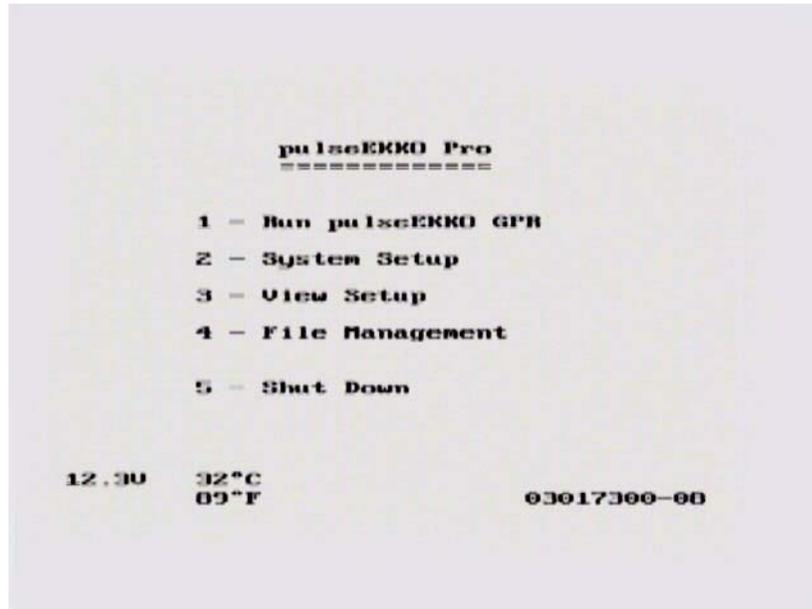
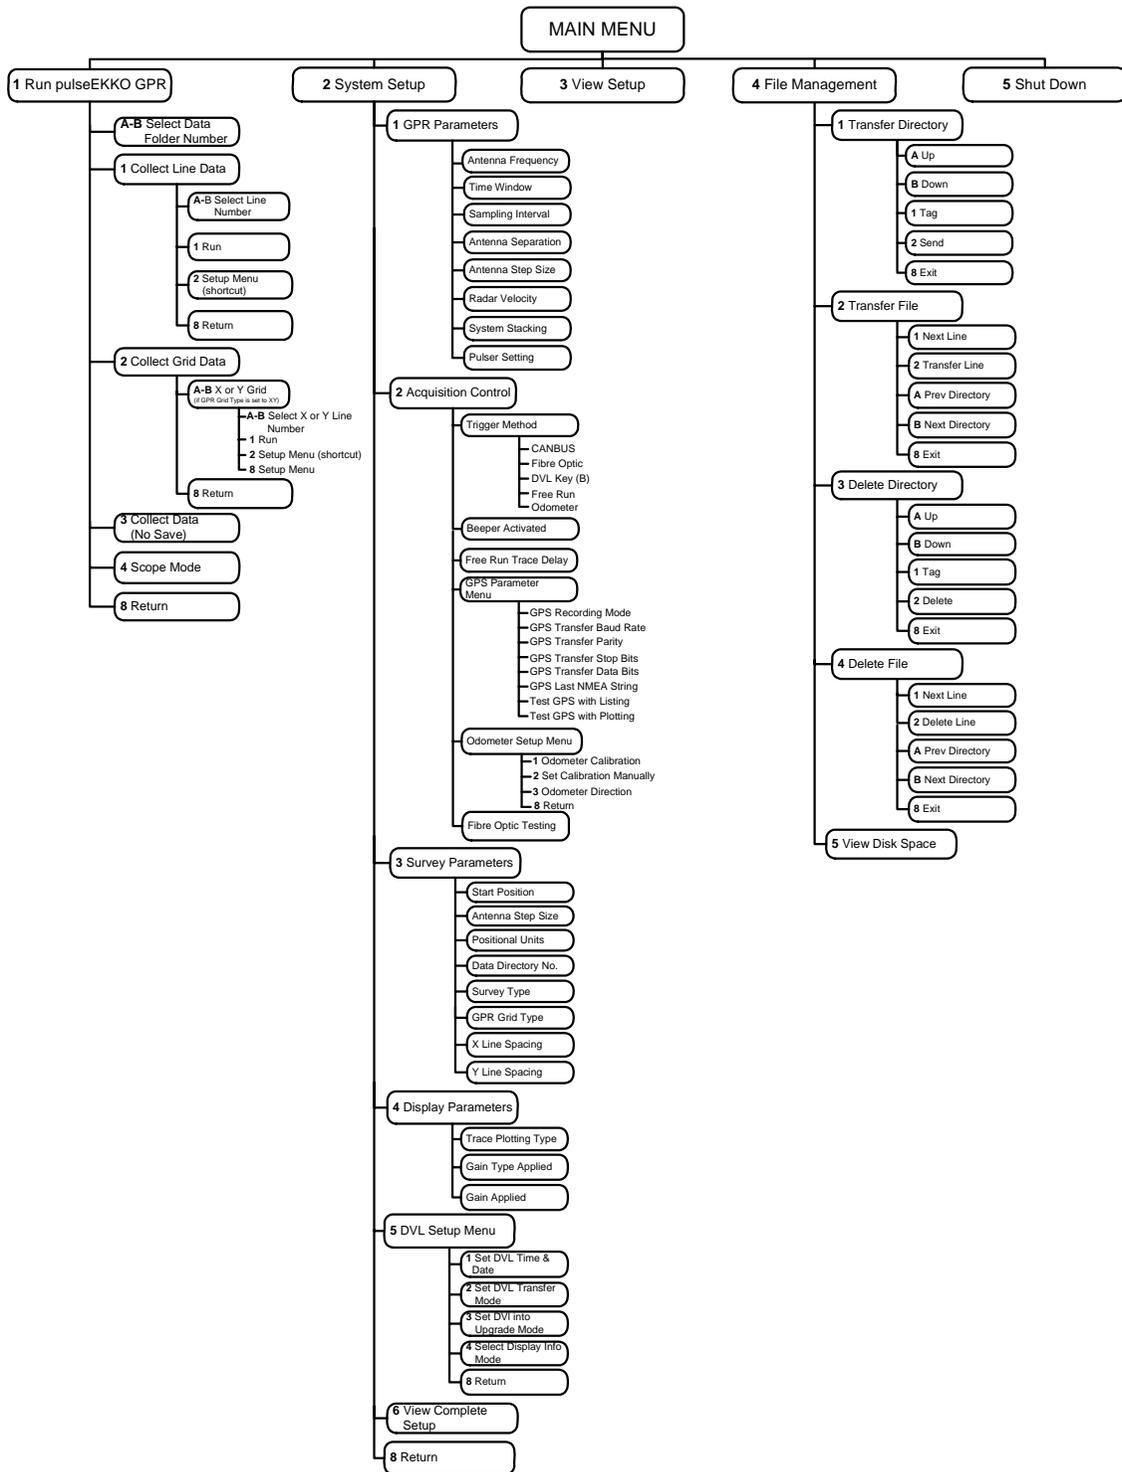

Figure 12-4: pulseEKKO PRO main menu screen on the DVL.
Figure 12-5: Flow chart of the complete pulseEKKO PRO DVL menu system.
Once all components are properly connected, the radar is ready to operate under DVL control. Turn the DVL on by pressing any button on the front. After the DVL boots up the main menu is displayed (Figure 12-4). There is also a flow chart of the complete menu system on the DVL shown in Figure 12-5.
- 1) If the menu item has a number listed beside it, that item can be selected by pressing the corresponding button number on the DVL. For example, in the above menu (See Figure 12-4 on page 62), pressing the number 1 will select the option for running a pulseEKKO GPR system.
The **System Setup** option from the main menu (See Figure 12-4 on page 62) is used to set up the data collection parameters.
Selecting **View Complete Setup** from this menu or **View Setup** from the main menu (See Figure 12-4 on page 62) displays all the current parameter settings for the pulseEKKO PRO system. A screen display similar to the one in Figure 13-2 will be seen: